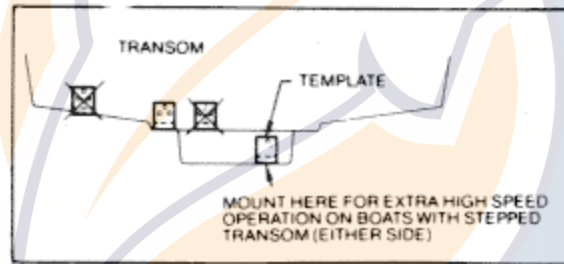

FIGURE 5
Step 2 (Fiberglass Boats) BRACKET INSTALLATION - If your boat has a stepped transom located below and under the main transom, the compact transducer design allows mounting in this area. This mounting location is recommended for good reading at very high speeds. (See Figure 5).